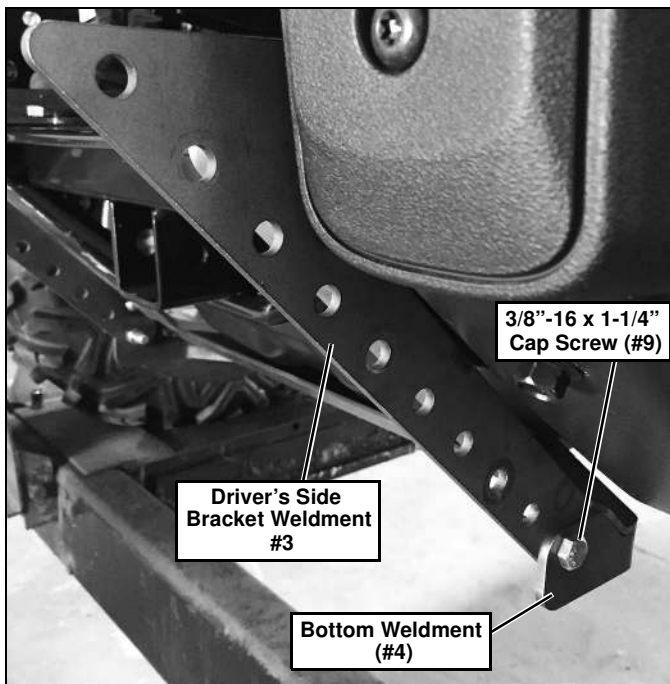

Figure 4
4. Insert (1) 3/8"-16 x 1-1/4" Cap Screw (#9) into the side hole of the Bottom Weldment (#4) and into the Driver's Side Bracket Weldment (#3). Secure with (1) 3/8"-16 Lock Nut (#10). (See Figure 4.)